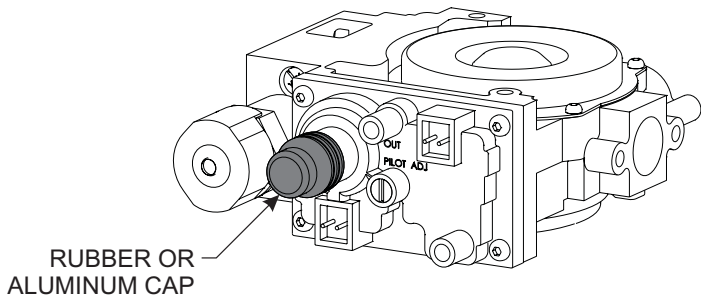
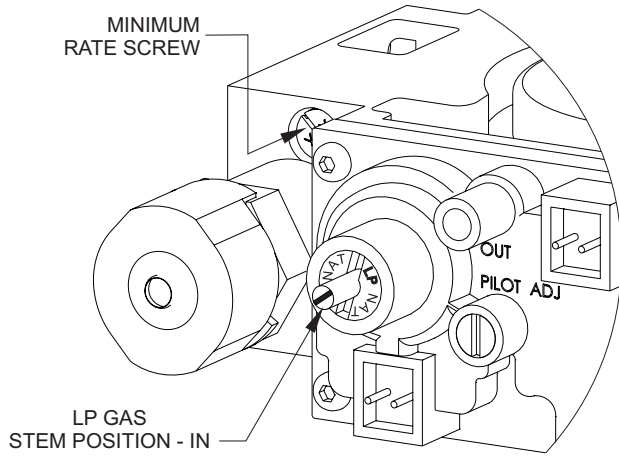
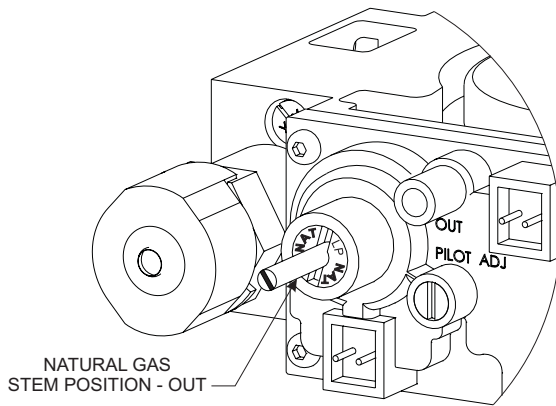

Figure 1
Figure 2
Figure 3
15. Locate the gas valve. Unscrew the knurled cap on the gas valve to gain access to the regulator stem. See Figure 1. Using your fingers gently push in and rotate the stem to the desired gas setting. For LP gas, the plastic stem will set to the inward position. See Figure 2. For Natural gas, the plastic stem will set to the outward position. See Figure 3. Do not force rotation of the regulator stem. Never use tools to make this adjustment.
18. Re-install the (4) # 10 x 1/2" screws that secure the Right and Left burner brackets to the firebox bottom.